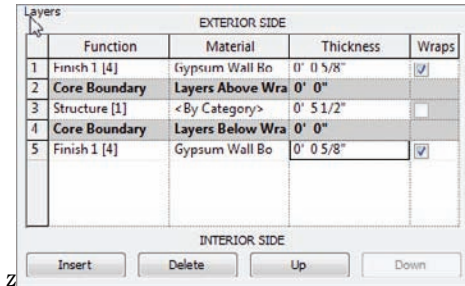

FIGURE 16.4 Adding a 5/8" gypsum layer to the interior side of the wall
10. Click the Down button, as shown at lower right in Figure 16.4. It's located below the Layers area. Your new layer becomes 5.
15. Change Thickness to 5/8" (16mm). Your Layers field should resemble Figure 16.4.